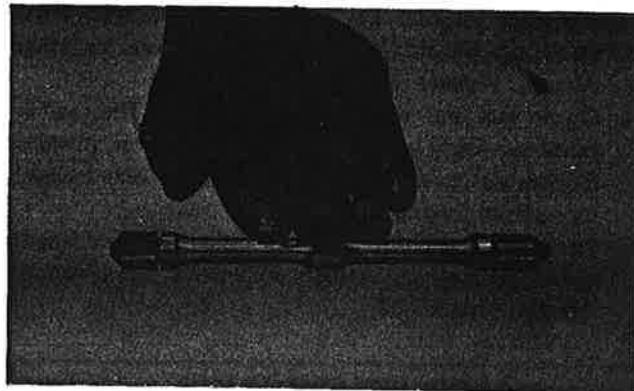

Fig. 3-3-31
10. Roll the push rod across a surface plate. If rod is bent, replace. (Fig. 3-3-31)